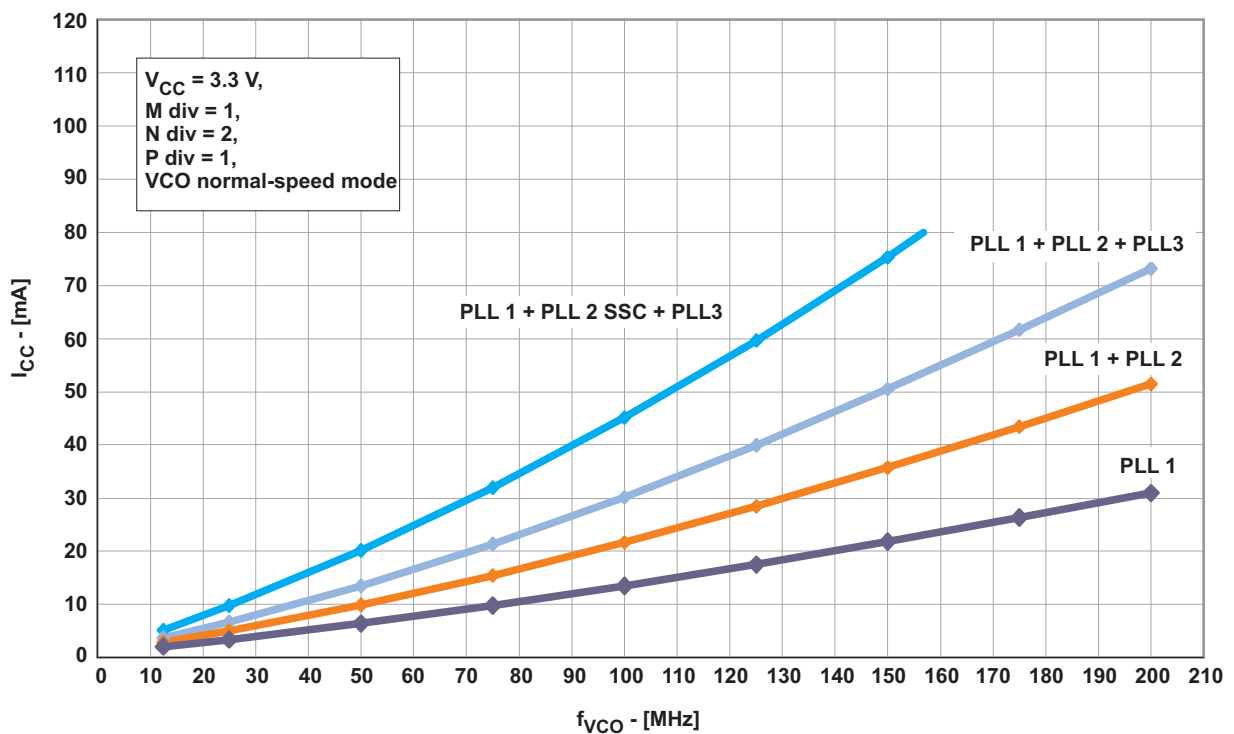
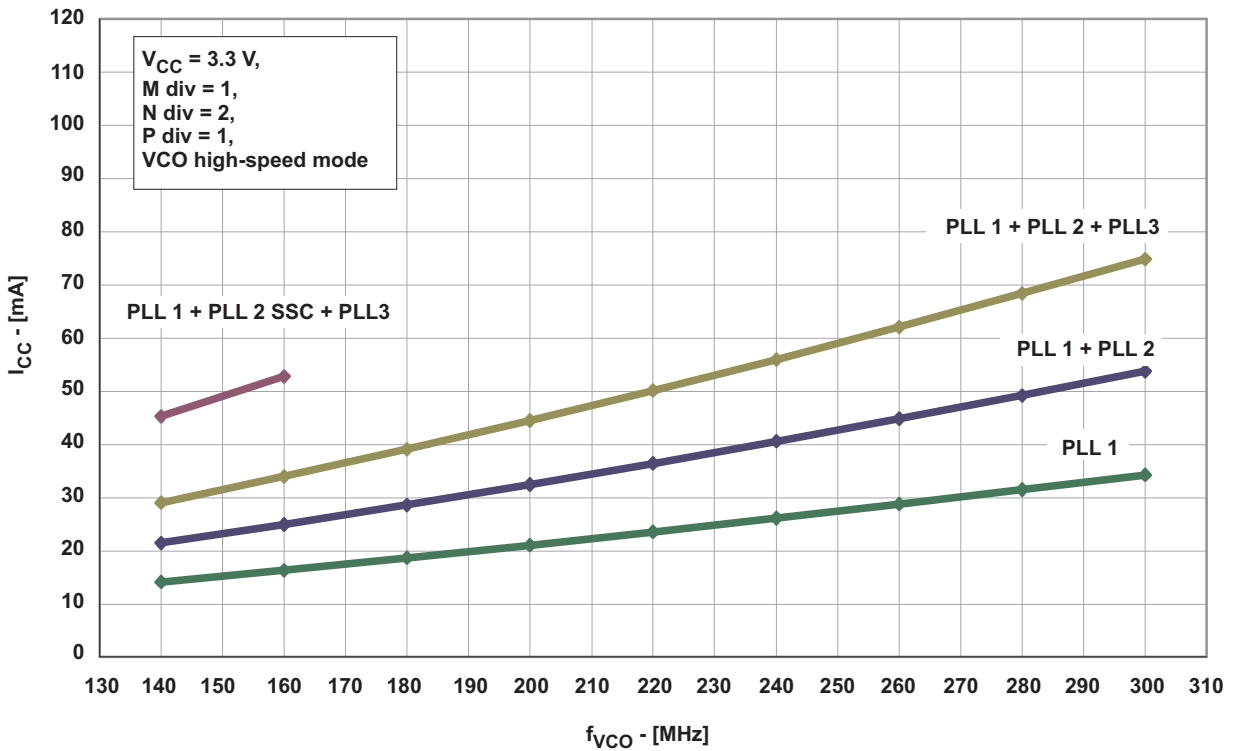
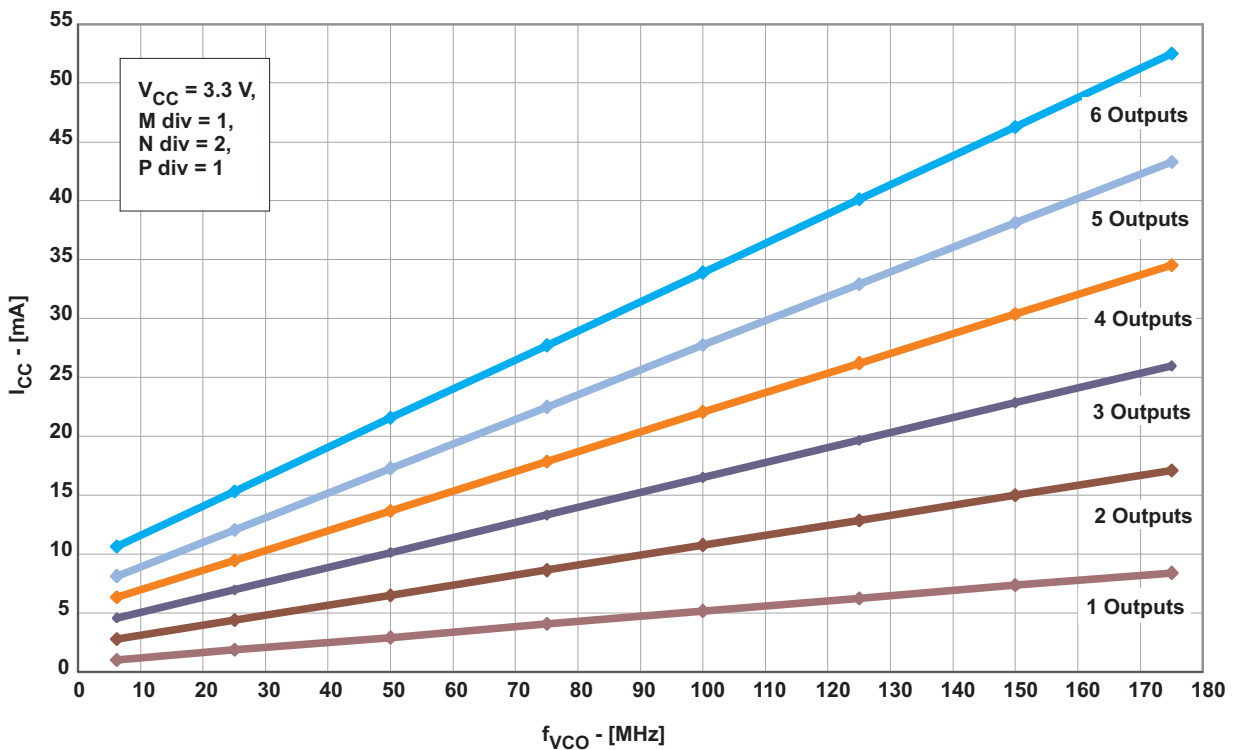
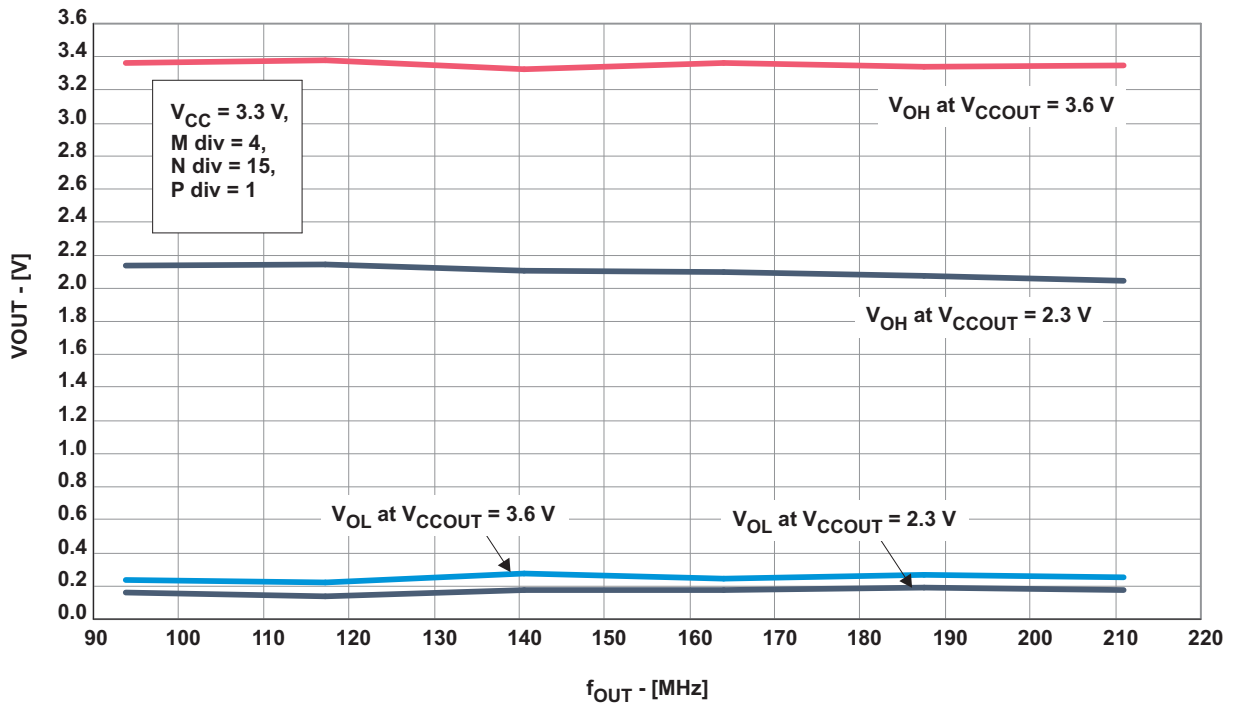

Figure 2. I_{CC} vs Number of PLLs and VCO Frequency (VCO at Normal-Speed Mode, Byte 6 Bit [7:5])
Figure 3. I_{CC} vs Number of PLLs and VCO Frequency (VCO at High-Speed Mode, Byte 6 Bit [7:5])
Figure 4. I_{CCOUT} vs Number of Outputs and VCO Frequency
Figure 5. Output Swing vs Output Frequency
- (1) All typical values are at respective nominal V_{CC} .
- (2) For calculating total supply current, add the current from Figure 2, Figure 3, and Figure 4. Using high-speed mode of the VCO reduces the current consumption significantly. See Figure 3
- (3) Normal-speed mode or high-speed mode must be selected by the VCO frequency selection bit in Byte 6, Bit [7:5]. The min $f_{(VCO)}$ can be lower but impacts jitter-performance.
- (4) The maximum output frequency may be exceeded, but specifications under the Recommended Operating Condition may change and are no longer assured. Do not exceed the maximum power dissipation of the 20-pin TSSOP package (600 mW at no air flow). See Figure 5.
- (5) 50000 cycles.
- (6) Jitter depends on configuration. Jitter data is for normal t_r/t_f , input frequency = 27 MHz, $f_{(VCO)} = 147$ MHz output.
- (7) The $t_{sk(o)}$ specification is only valid for equal loading of all outputs.